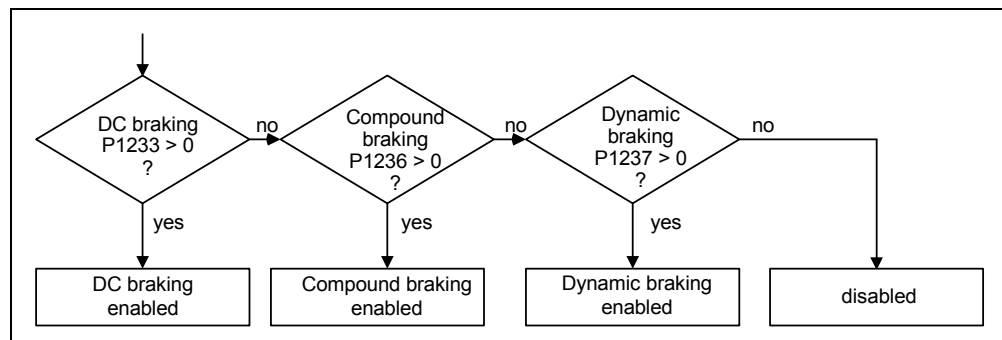

Fig. 1-4 Interdependency between DC / compound and resistor braking
- the DC brake is selected (see to Fig. 1-4 Interdependency between DC / compound and resistor braking)
With the exception of measures 3, 4 and 5, all other measures can be combined to avoid the inverter protective function "DC link overvoltage F0002". If measures 3, 4 and 5 are simultaneously activated, then the following priority must be applied (see Fig. 1-4 Interdependency between DC / compound and resistor braking):